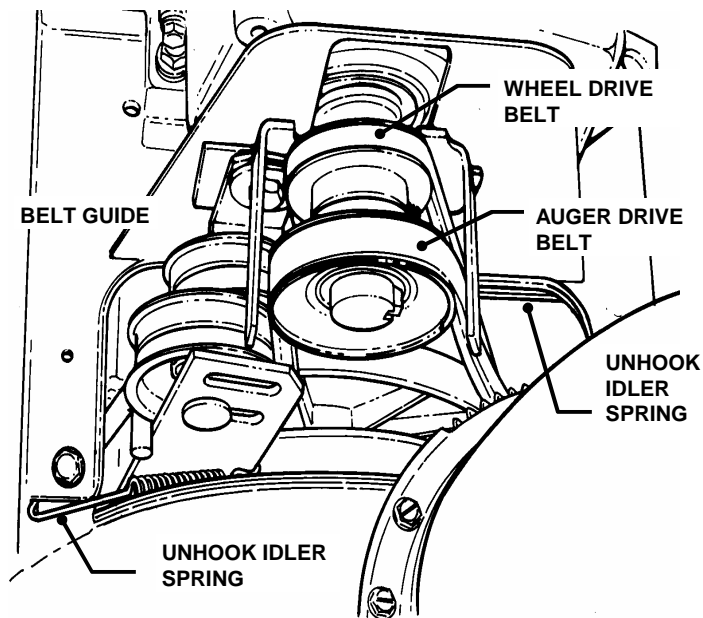

FIGURE 4.6
4. Loosen auger/impeller belt guide. See Figure 4.6.
5. Remove wheel drive belt from around engine pulley. See Figure 4.6.